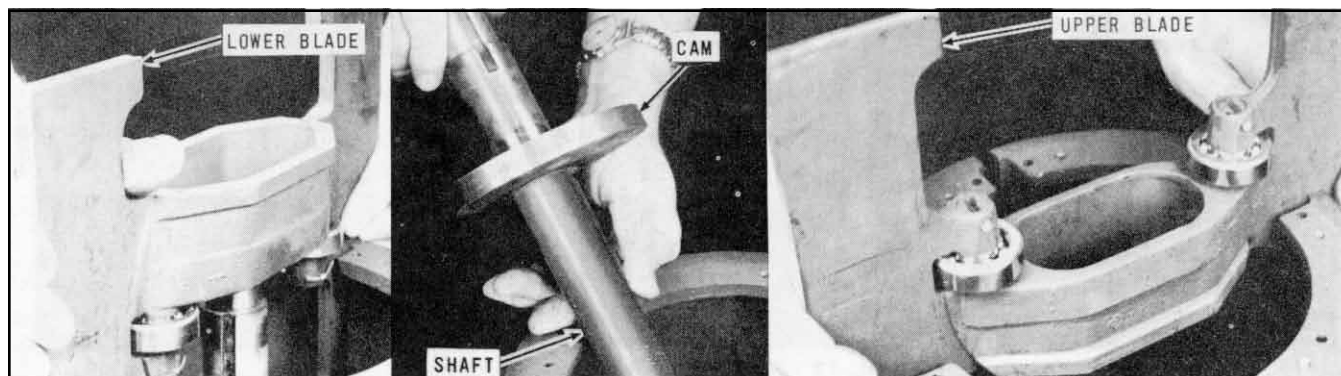

Figure 23 – Removing Blade and Shaft
6. Lift out the lower blade, withdraw the cam and shaft assembly, and take out the upper blade, Figure 23.